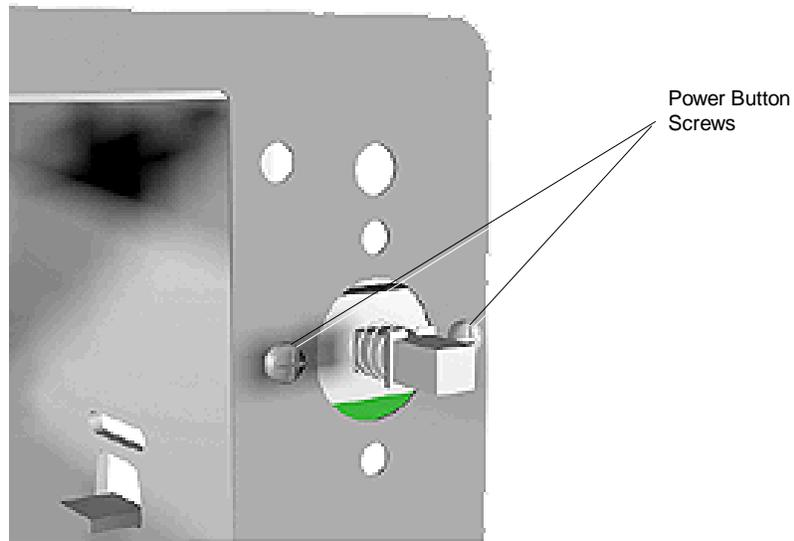

Figure 5-13 Power Button Screws
4. Remove the two screws securing the power button to the front of the system unit (see Figure 5-13).